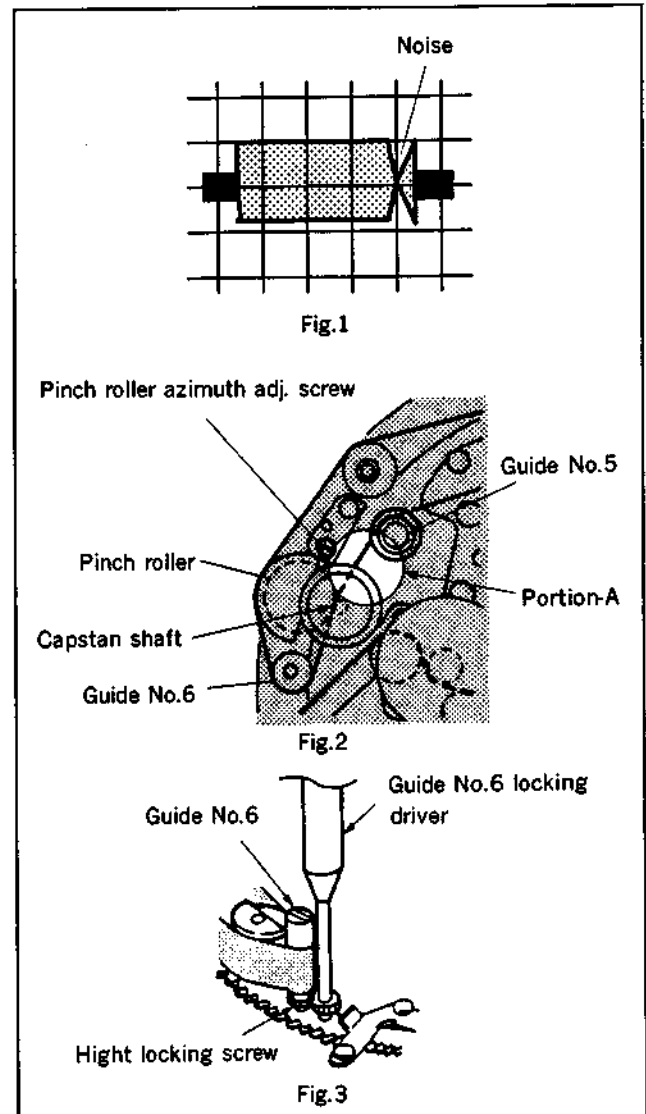

Fig. 6-6-1 Checking just put into playback mode
2 (1) If RF wave shape does not make flat instantaneous-ly while maintaining horizontally flat envelope, go to the adjustment below. (Fig.6-6-1.)
If noise is seen at exit side (bottom of screen) when the unit put into the playback mode from threading-completed condition. (Fig.6-6-1 (1))
(2) Check that FWD hold-back tension is not too low.
(Fig.6-6-1 (2))
(Fig.6-6-1 (1))
(3) Loosen by rotating the height locking screw in counterclockwise direction, using Guide No.6 locking driver. (Fig.6-6-1 (3))
(4) Adjust height of Guide No.6 by rotating it.
Note: If Guide No.6 is raised too high, tape wrinkle occurs between capstan and Guide No.5. (Fig. 6-6-1 (2) portion-A) Check there is not tape wrinkle.
(5) Check that FWD hold-back tension is not too low.
Rotate the pinch roller azimuth adjusting screw about 5 degrees in clockwise. Check the RF wave shape. Adjust it by incrementing the 5 degree clockwise rotation and check at each rotation. (Fig.6-6-1 (2))